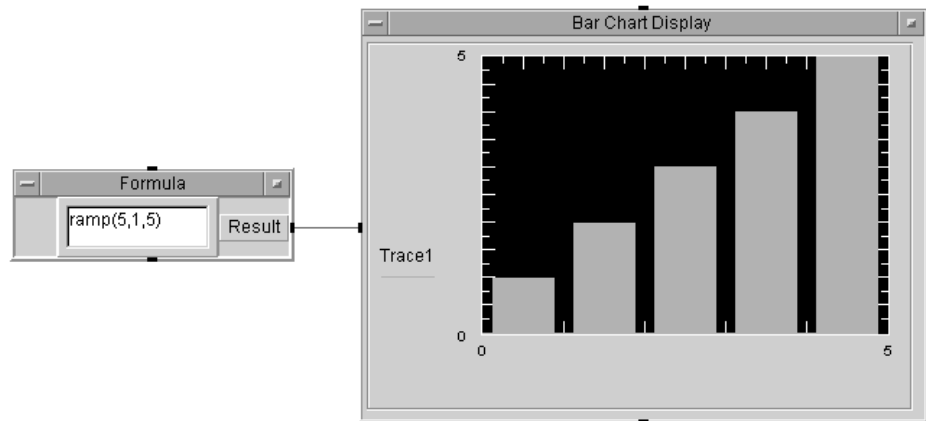

Figure 202 Merging the BarChart Program
- 5 Run the program. It should look like Figure 202.